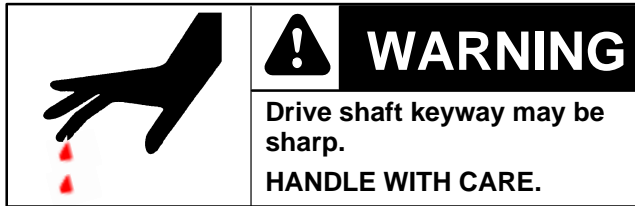

**Figure 9**
- 6b. Install hex support posts (S of Figure 9). Tighten posts to 80 in-lb (9 Nm).